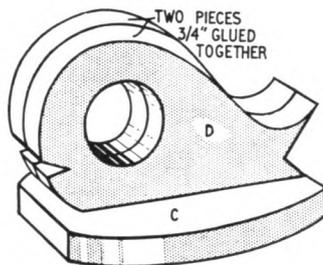

Fig. 4
The other design, which represents a fish, is made in a similar manner from two pieces of ¾ in. wood (D) and a base (C) glued together as shown in Fig. 4. Here again veneer may be used to cover the face and edges.